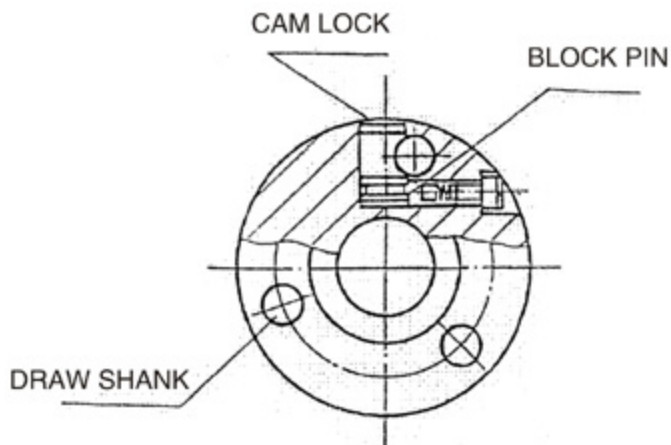

Figure 6: Locked cam structure of the chuck or faceplate
F. Chuck and Faceplate Mounting (see Figure 6):